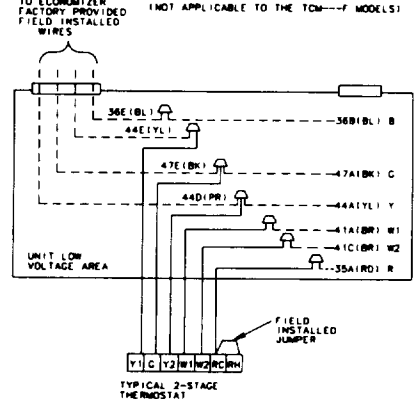

FIG. 3 AUTO CHANGEOVER THERMOSTAT CONNECTIONS
7. SOME THERMOSTATS PROVIDE THE 'G' SIGNAL IN THE COOLING MODE ONLY. TO PROVIDE THE 'G' SIGNAL IN THE HEATING MODE AN ACCESSORY RELAY IS REQUIRED. SEE FIG. 3 FOR PROPER CONNECTIONS